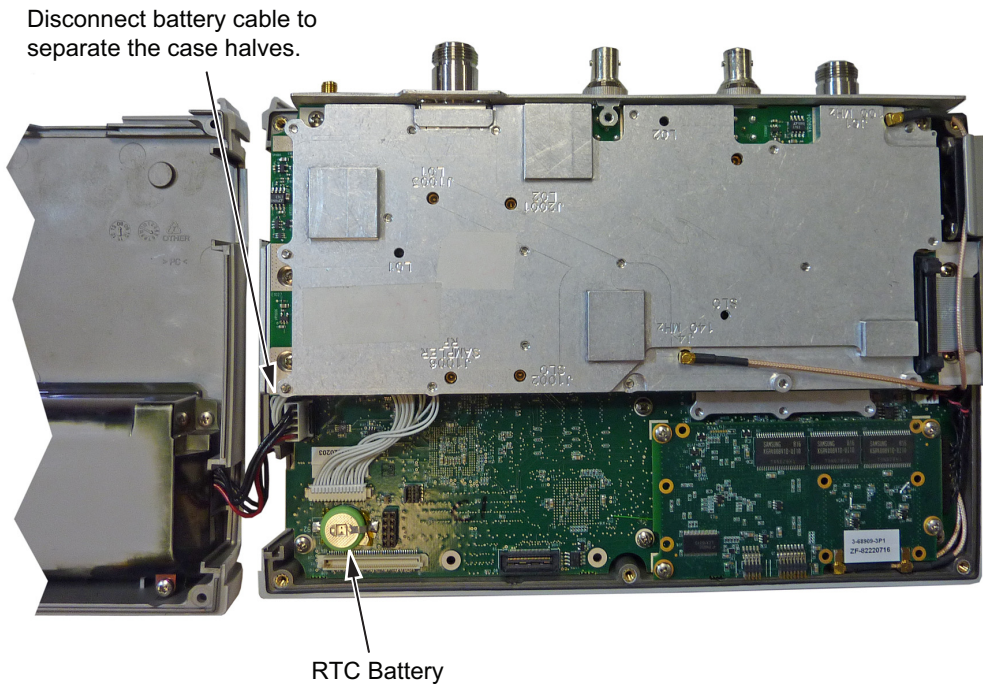

Figure 6-3. Site Master Opened 180 Degrees
- Lay the Site Master flat and remove the battery connector cable between the two halves (Figure 6-3).